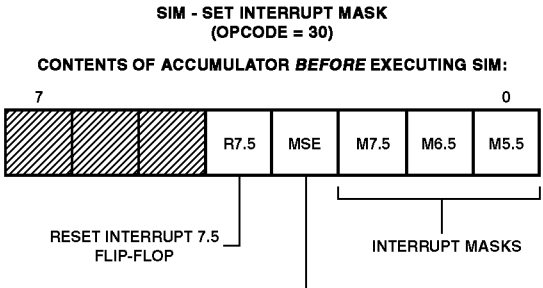
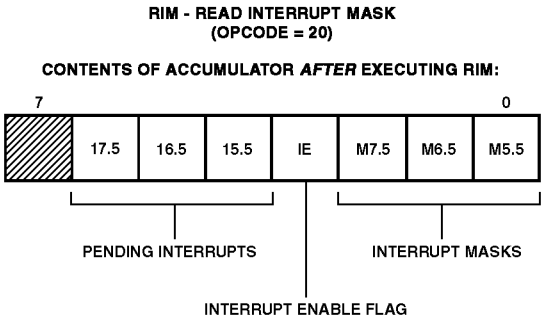

Figure 7-4 INTERRUPT MASKS SET USING SIM INSTRUCTION
Figure 7-5 RIM - READ INTERRUPT MASK
The five hardware interrupt inputs provided in the 8085A are of three types. INTR is maskable (can be enabled or disabled by EI or DI software instructions), and causes the CPU to fetch in an RST instruction, externally placed on the data bus, which vectors a branch to any one of eight fixed memory locations (Restart addresses). (See Figure 7-3). INTR can also be controlled by the 8259 programmable interrupt controller, which generates CALL instructions instead of RSTs, and can thus vector operation of the CPU to a preprogrammed subroutine located anywhere in your systems's memory map. The RST 5.5, RST 6.5 and RST 7.5 hardware interrupts are different in function in that they are maskable through the use of the SIM instruction, which enables or disables these interrupts by clearing or setting corresponding mask flags based on data in the accumulator. (See Figure 7-4.) You may read the status of the interrupt mask previously set by performing a RIM instruction. Its execution loads into the accumulator the following information. (See Figure 7-5).
- The 8085A executes a SIM instruction, with accumulator bit 4 previously set to 1. (See Figure 7-4).